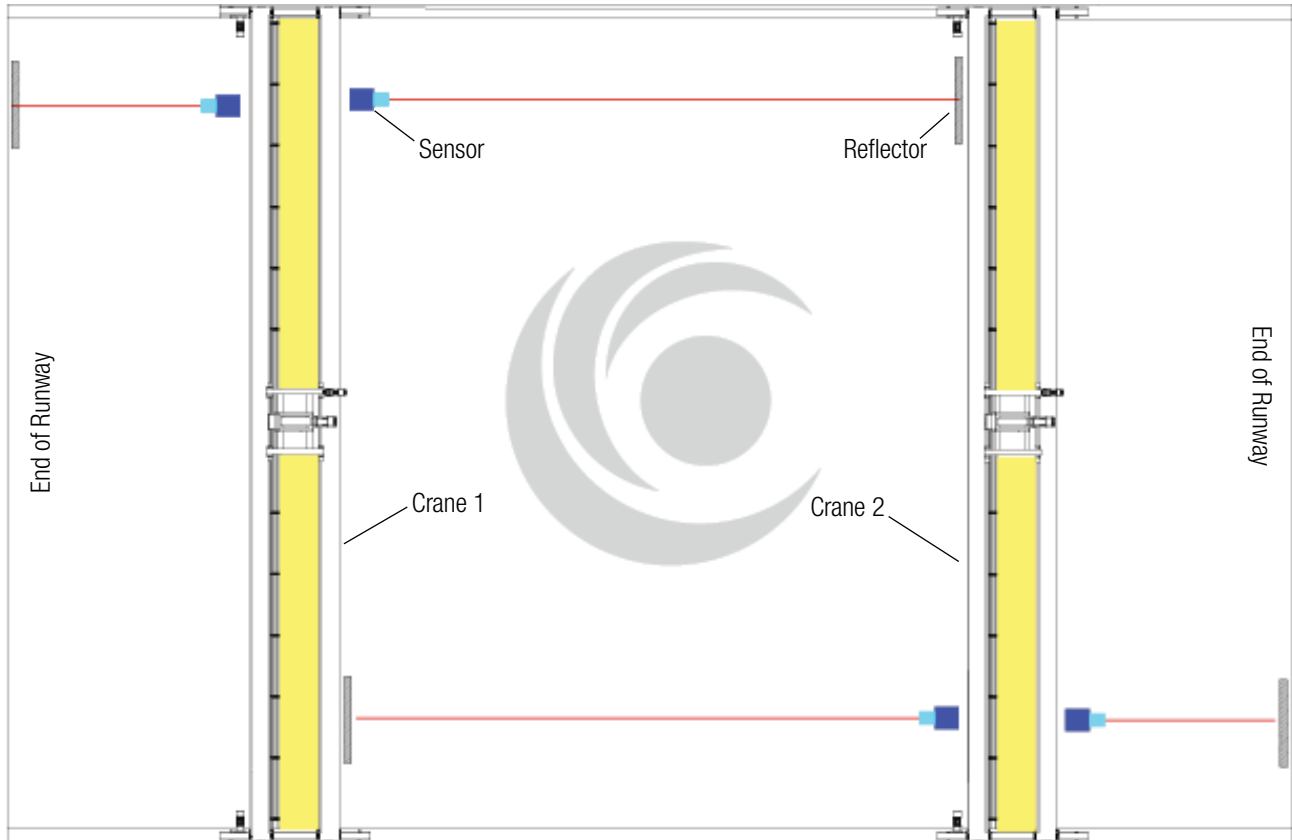

Figure 4-4
4.2.1 Included below is a general sensor target installation, your specific installation may vary. See **Figure 4-4**